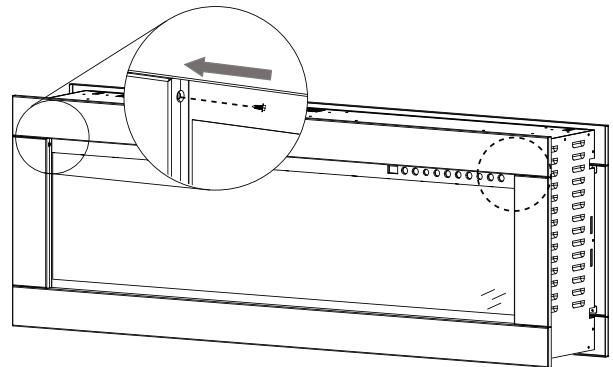

Fig. 4-4
- Secure 2 screws (supplied) to hold the front trim in place (**Fig. 4-4**).